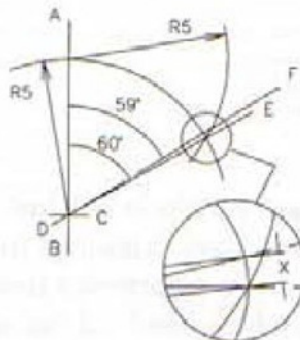

Fig.6
A very good starting point for this project is to make the rollers. Assuming that a suitable pair of gears has been acquired, the pinch roller material can be obtained. Both rollers should be of the same diameter, although the lower roller (B) is somewhat longer in order to accommodate the operating handle. If the material is to be turned on the outside diameter, they can be centre drilled and completely turned between centres. If, however, the bar is to be left as supplied, it will have to be carefully set up in order to ensure that everything is concentric. This is quite important, as if any eccentricity exists, the rollers can lock up in operation. My rollers were set up in the lathe by holding in a good 3-jaw chuck at one end and a fixed steady at the other. The steady was adjusted until the material could be proved true in two planes, using a dial test indicator (Fig.6). The bar was then centre drilled and the procedure repeated at the opposite end. It could now be turned between centres. An alternative method of setting up the fixed steady is to chuck a short piece of bar which is exactly the same diameter as the roller stock. When it is quite true, as demonstrated by the dial test indicator reading, the steady supports can be carefully brought into contact with the O/D of the bar. If the steady supports are now locked into position here, the whole steady can be moved out towards the tailstock, where the longer material can be put up in the chuck and steadied for centre drilling.
Figure 6 shows how by stepping back 1mm, dimension X, an angle which approximates to 59 deg. is achieved. Of course the 1mm dimension is taken as a straight line rather than the length of the circumference, however this in part compensates for the fact that the circumference is slightly greater than 1mm for a 1 deg. angle. The accuracy of the 57.5mm radius is not that important, as already stated, errors in this value will not effect the accuracy of the 60 deg. angle, only the 1 deg. adjustment.
- (i) use of the table at its extreme positions including your hand operating the hand-wheel (**Fig. 6**).